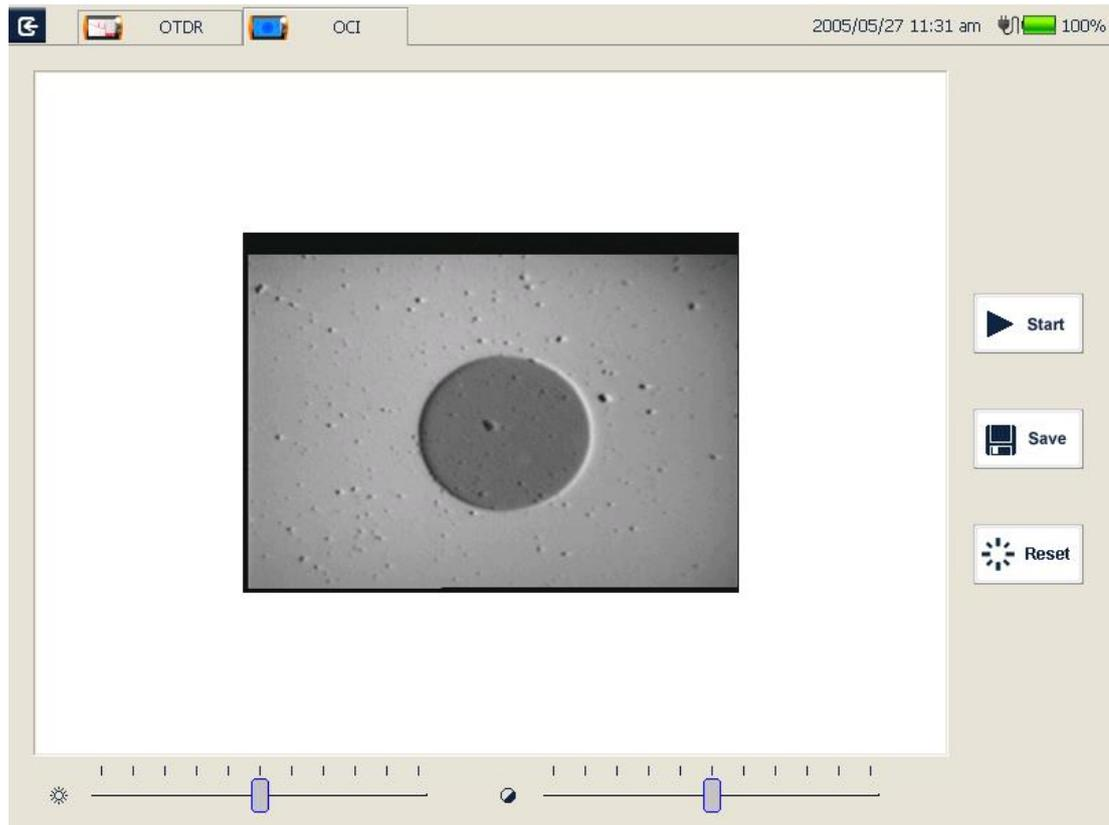

Fig. 18.2 Measurement
4. Click [**Start**] button or Press “▶/■” (Start/Stop) button on MTP-200 front panel to start the measurement. As shown in Fig 18.2